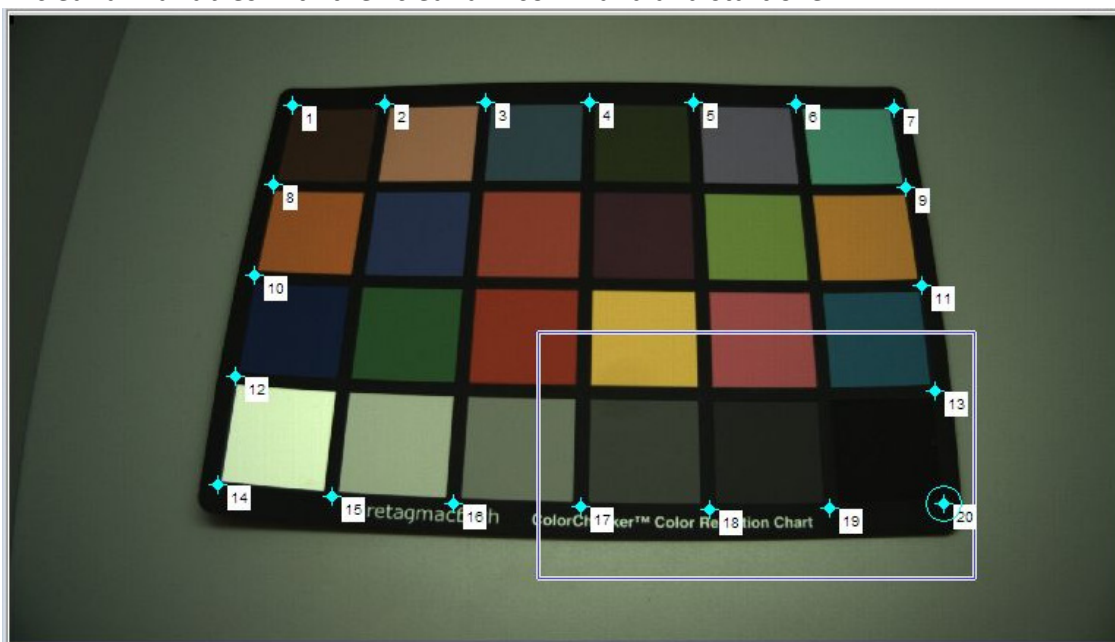
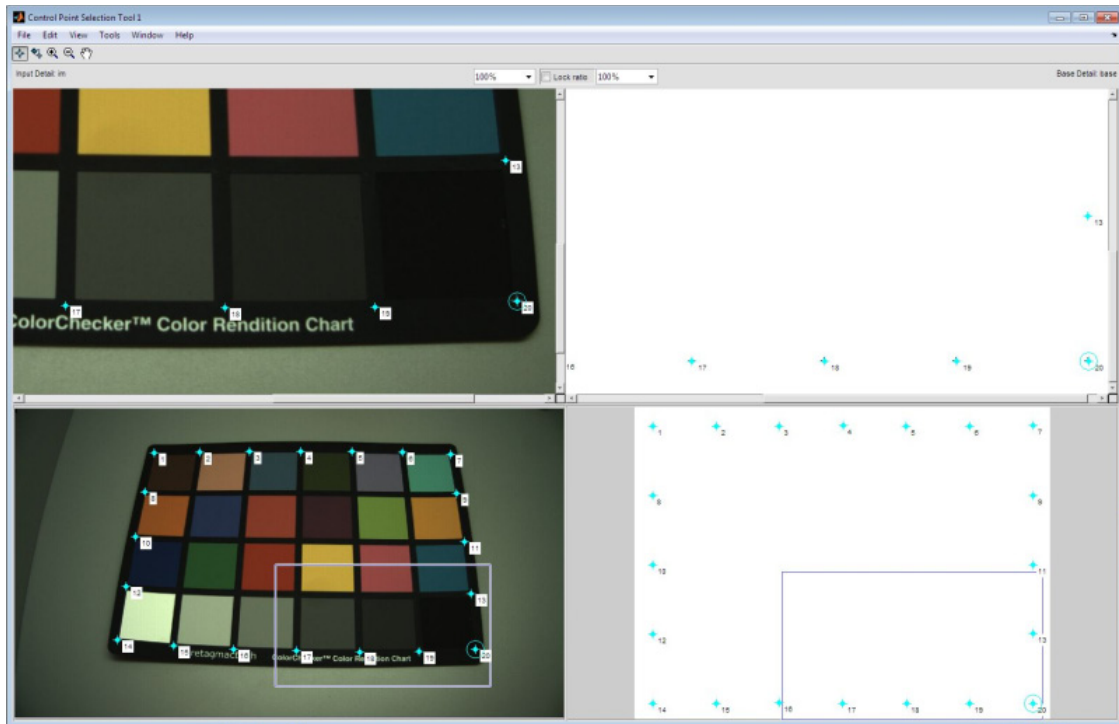

Figure 3) Lower left window, pair order detail
Figure 4) Completed input registration window
b) Mark all 20 points in exactly the order shown in Figure 3
Continue selecting registration pairs as described above. **Important note:** in order for the registration script to work, you must start in the upper left corner and follow the points from left to right and top to bottom until all of the targets are located as shown in figure 3. The completed screen should look like the images shown in Figure 4 and 5. If at any point you make a mistake, close the window, select the MATLAB command window and if the script is still running type CTRL-C to stop the script from processing, clear all variables with the “clear all” command and start over.